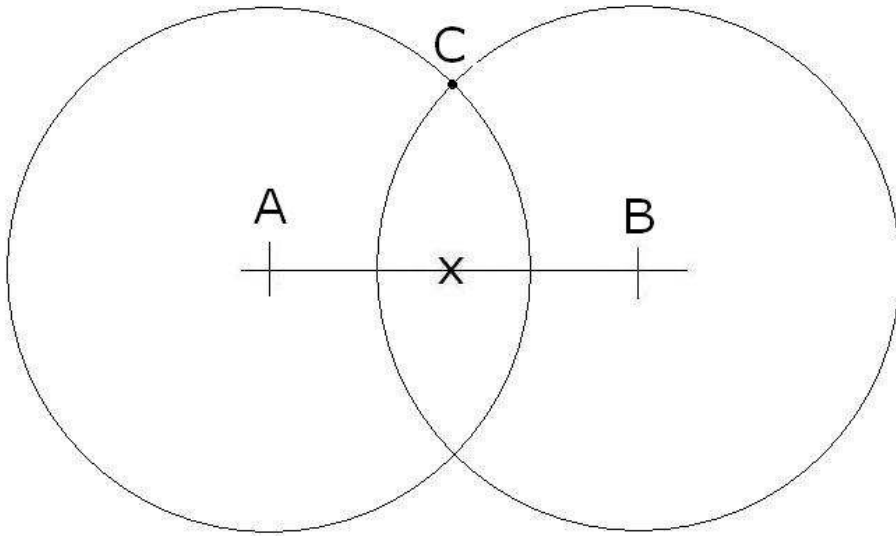

Figure 5: Arcs of equal radius drawn about point A and B
- 4) Using the string and chalk, anchor the string at point A and draw an arc or a full circle. The length of the string should be slightly longer than for the previous step. Repeat for point B, using the same length of string. The intersection of the two arcs is referred to as C (Figure 5).